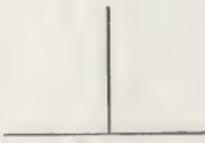

FIG. 4.
**21. A line is perpendicular** to another (see Fig. 4) when it meets that line so as not to incline towards it on either side.